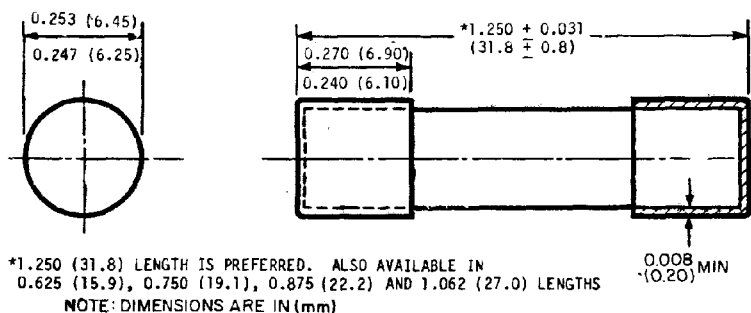
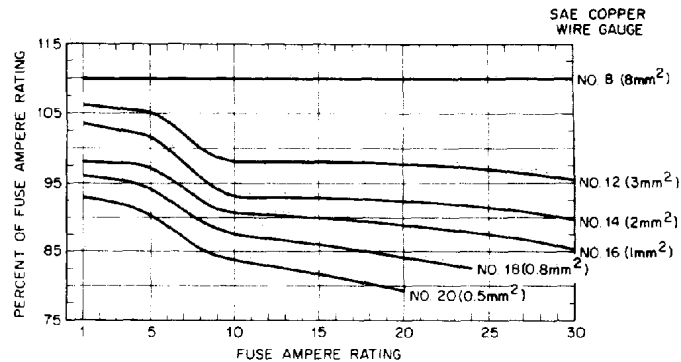

FIGURE 1—FUSE DIMENSIONS
FIGURE 2—FUSE DERATING FOR VARIOUS WIRE SIZES
- 5. Construction**—Fuse caps shall be tightly attached to the glass tube and the ends shall be square and free of solder externally. Fuse elements shall be clearly visible through the glass tube. Fuses shall be capable of being passed through a tubular gage having a length as long as the fuse and having a uniform inside diameter of 0.258–0.259 in (6.55–6.60 mm). Preferred and other fuse dimensions are shown in Figure 1.
6.1 General—This standard applies to fuses of all lengths. However, the fuse derating chart shown in Figure 2 applies specifically to the preferred length of 1.250 in (31.8 mm). The fuse manufacturer should be contacted for recommendations on other available lengths. (See Figure 1.)
6.2 Ampere Rating—This standard covers ampere ratings up to and including 30 A. Preferred ampere ratings are shown in Table 1. These ratings are determined at 75°F (24°C) ambient temperature. Approximate capacity change with respect to temperature is shown in Figure 3 for all length fuses. The use of fuses in ambient temperatures beyond the limits shown is not recommended without thorough testing experimentally in the vehicle. It is further recommended that fuses not be loaded to 100% of the adjusted capacity, according to ambient temperature, due to electrical system variances. See Figure 2 for additional deratings when fuses are used on cable gage sizes other than the test gage wire.